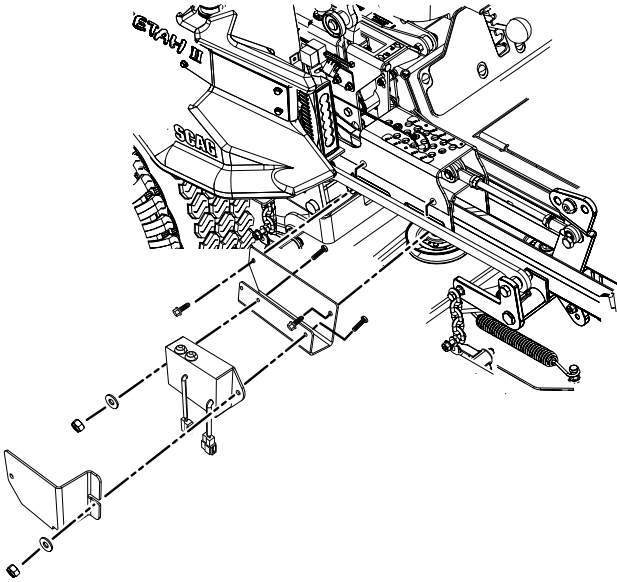

Figure 3-38. Installing SCZII RF Module Mounting Bracket
- Remove and retain the two (2) 3/8-16 x 1 1/4" bolts, lock washers and flat washers securing the right hand drive handle to the control lever bar.
- Install the RF switch into the end of the right hand drive handle. See Figure 3-38. It may be necessary to add a light application of silicone to retain the switch in the handle.